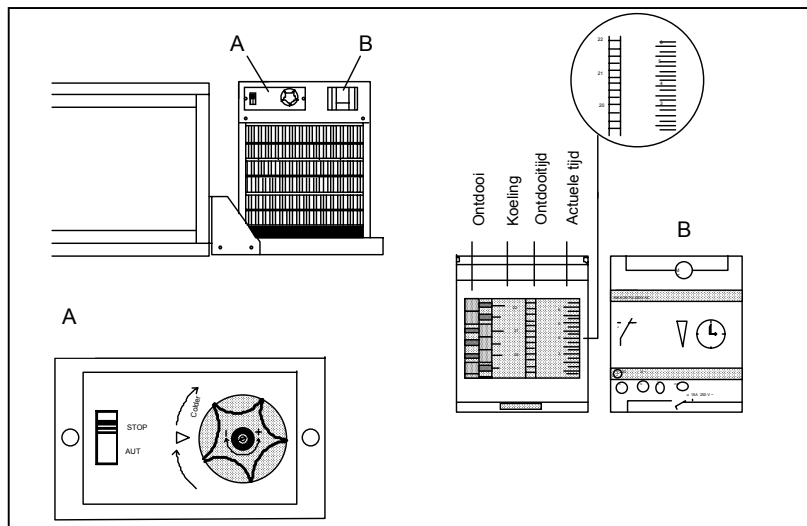

Figure 37
- The evaporating temperature is set at -9°C as standard, enabling a temperature of $0/+2^{\circ}\text{C}$ to be attained in the lower cooling section. The evaporating temperature can be set by means of the built-in thermostat (figure 37, point A), which is located in the compartment near the generator set.
- The timer (figure 37, point B) is fitted with a back-up system. With this system a spring is triggered in the event of power outage. The spring ensures that the clock continues to run for up to 3 hours. If the power outage lasts for longer than 3 hours, the clock will have to be reset.